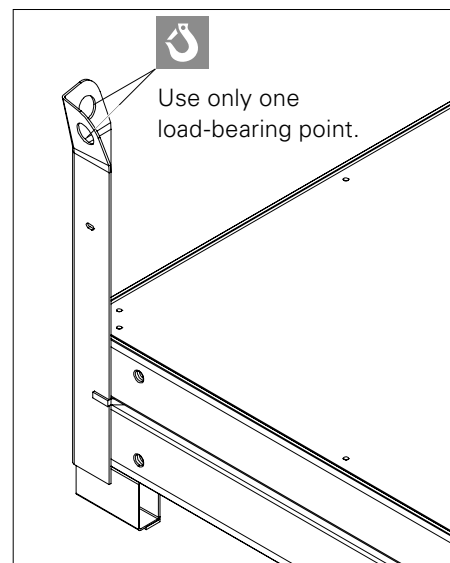

Fig. A1.11
2. Place the second panel with the formlining facing upwards in the stacking device. (Fig. A1.11)